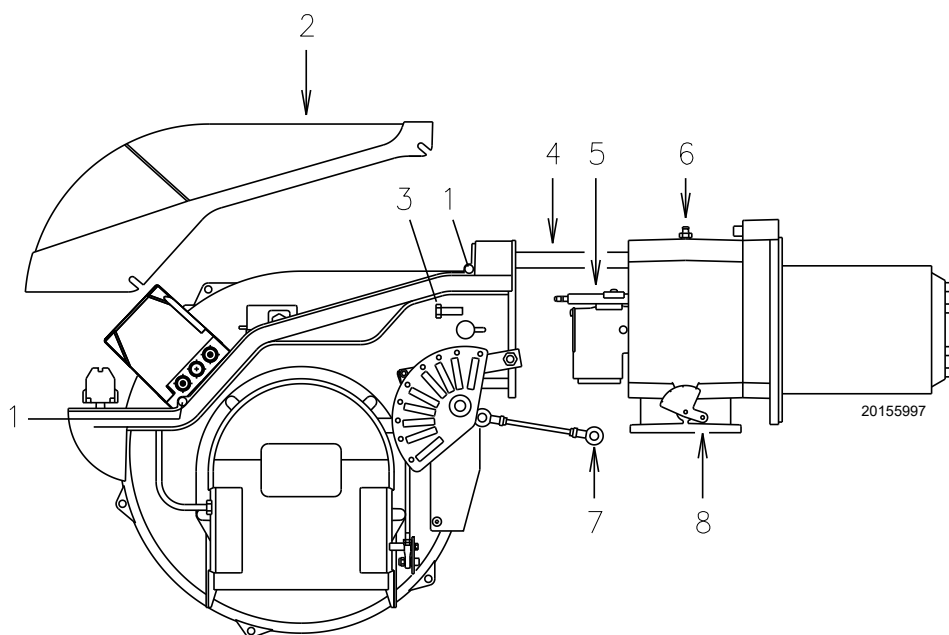

Fig. 39
Make sure the gas outlet holes for the ignition phase (in the distributor of the combustion head) are free of impurities or rust. If in doubt, remove the elbow (Fig. 39 on page 33).
- Loosen the 4 screws 1)(Fig. 39) and remove the cover 2)(Fig. 39).
- Disengage the articulated coupling 7) from the graduated sector 6)(Fig. 39).